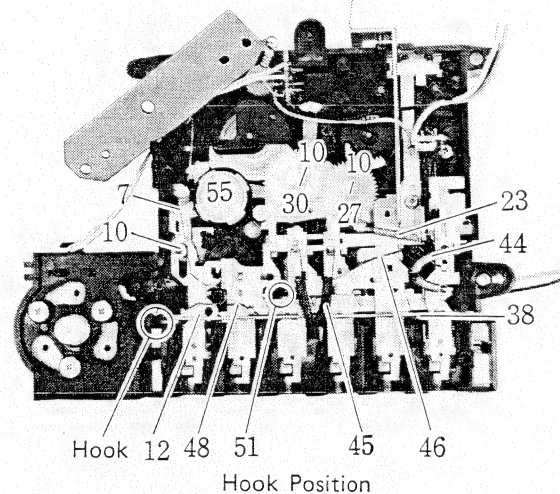

Figure 26.
4. Remove the washer 10 securing 27 and 30, then remove 27 and 30. (Fig. 26)